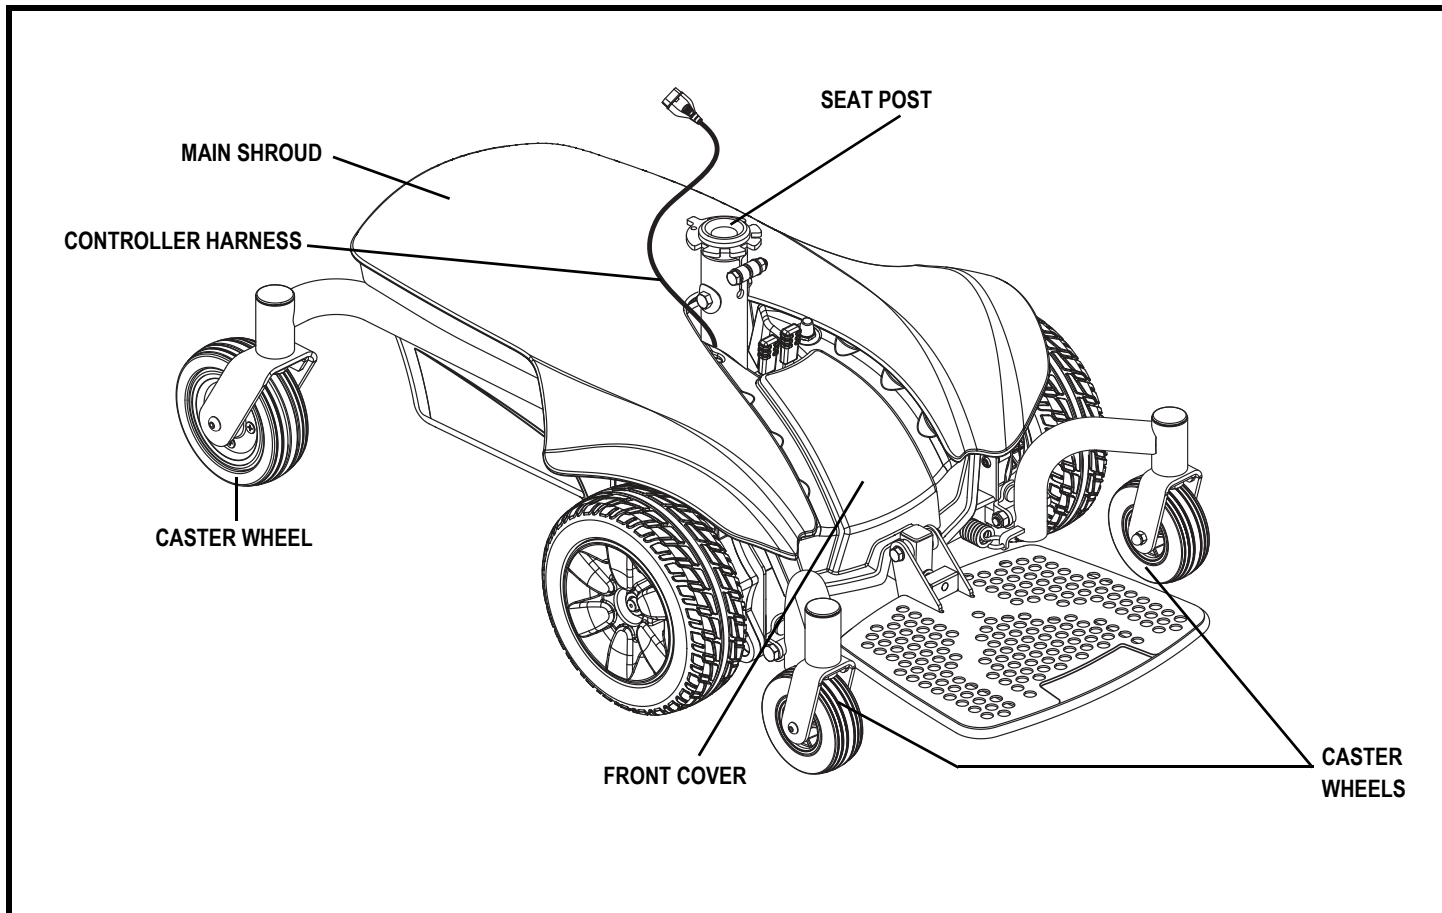

Figure 2. The Jazzy Elite 6 Power Base
5. Plug the controller harness into the connector on the power base. **See figure 2.**